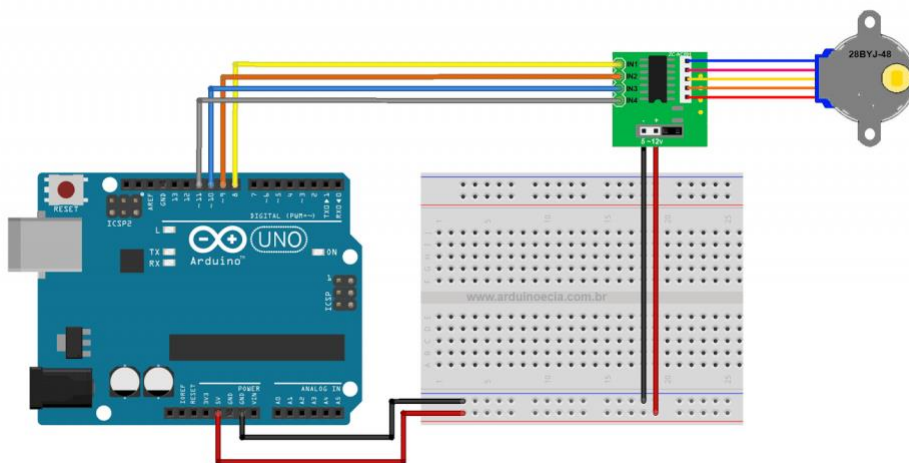

Figure 4.1 – Wiring diagram for Stepper Motor project
- Connect the ULN2003 driver as shown in the **Wiring Diagram (Figure 4.1)**.